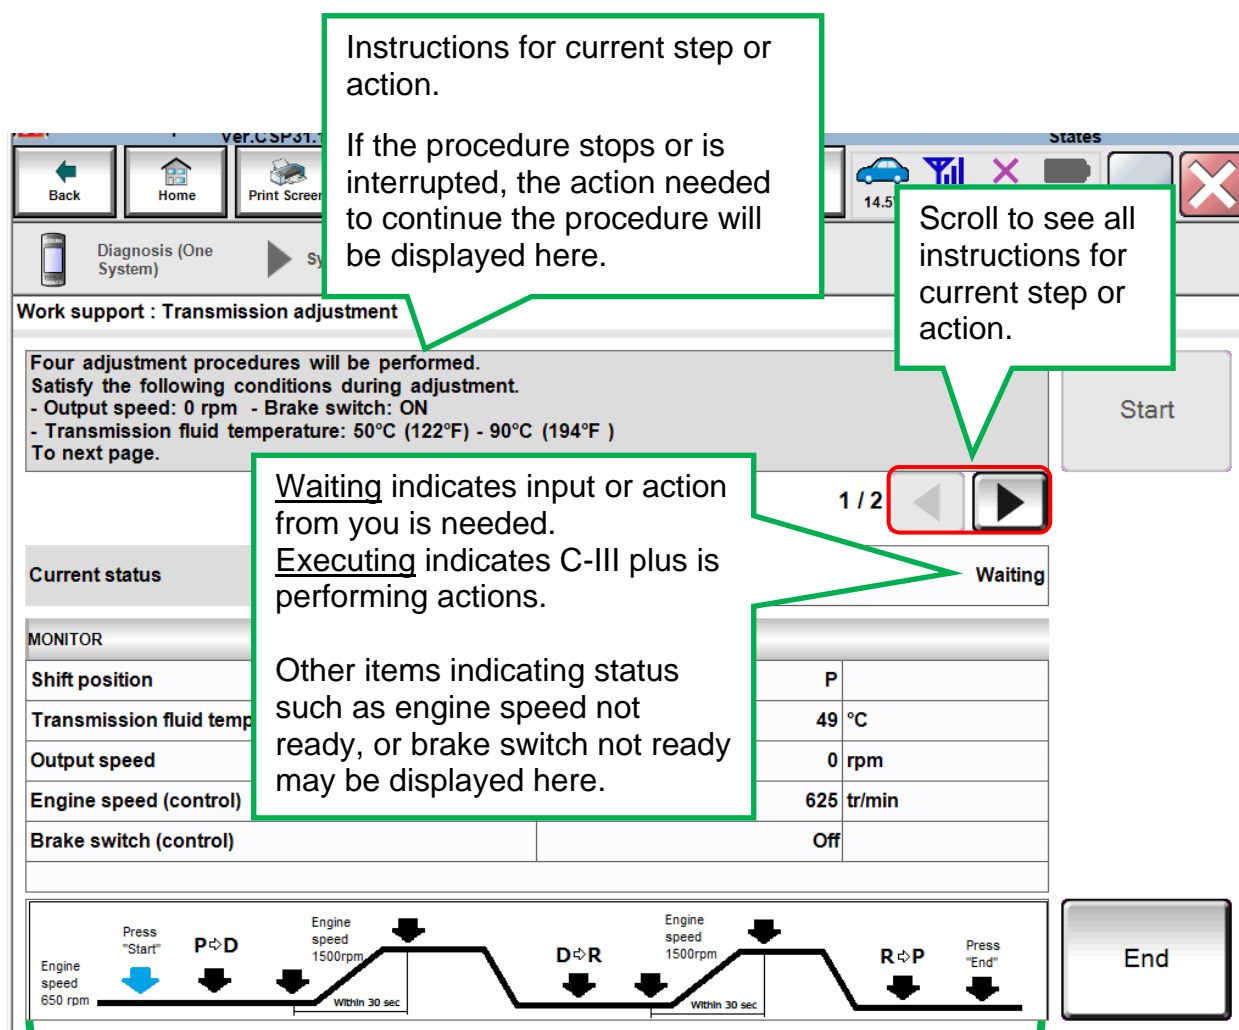

Figure 3B
- While performing the Transmission Adjustment procedure, a screen like the one in Figure 3B will display.
- Review the call outs in Figure 3B explaining the information on this screen.